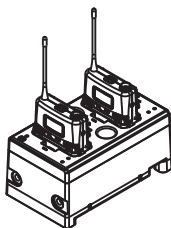

Fig. 29:
3. MP-80 dual-docking battery charger, Fig. 29.